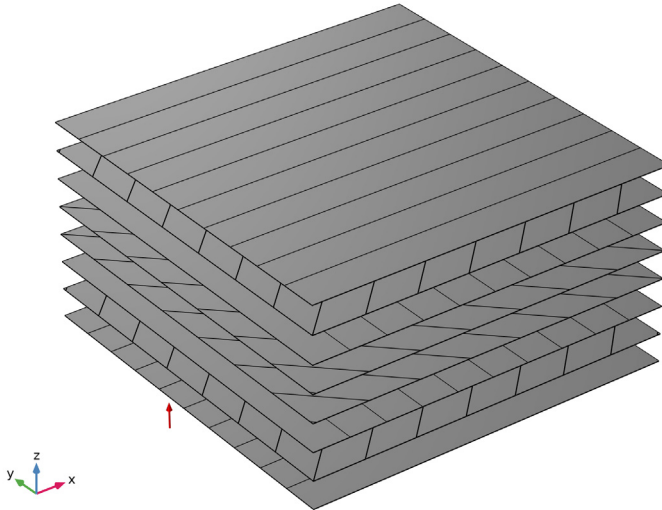

Figure 2: Stacking sequence  $[0/45/90/-45]_s$  in hub-spoke region.
- Hub and spokes:  $[0/45/90/-45]_s$  (Figure 2)